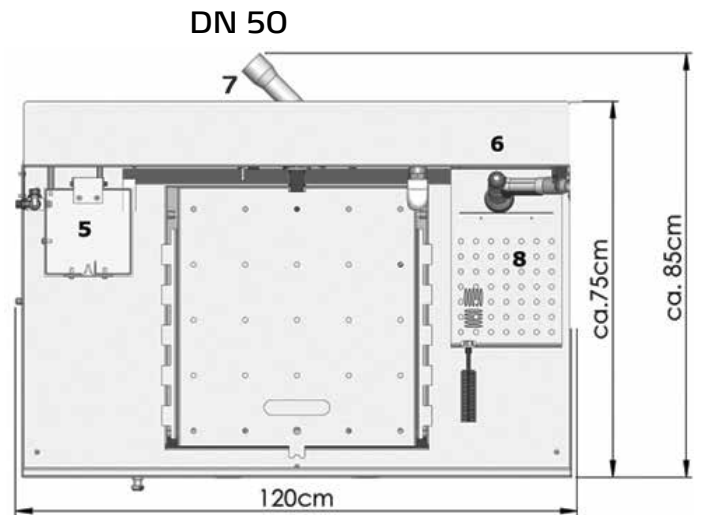

Fig. 2
- Clean tools at the brush cleaning station (scope of delivery in ColorFree TOP Set) (8) Fig. 2, 7